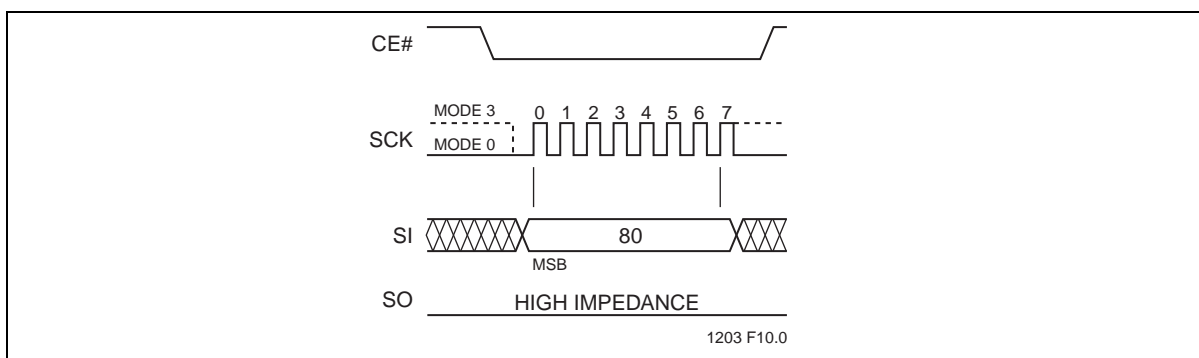

Figure 11:Disable SO as Hardware RY/BY# during AAI Programming
The 8-bit command, 80H, disables the Serial Output (SO) pin to output busy status during AAI-Word-program operation, and re-configures SO as an output pin. In this state, the SO pin will function as a normal Serial Output pin. At this time, the RDSR command can poll the status of the Software Status Register. This is shown in Figure 11.